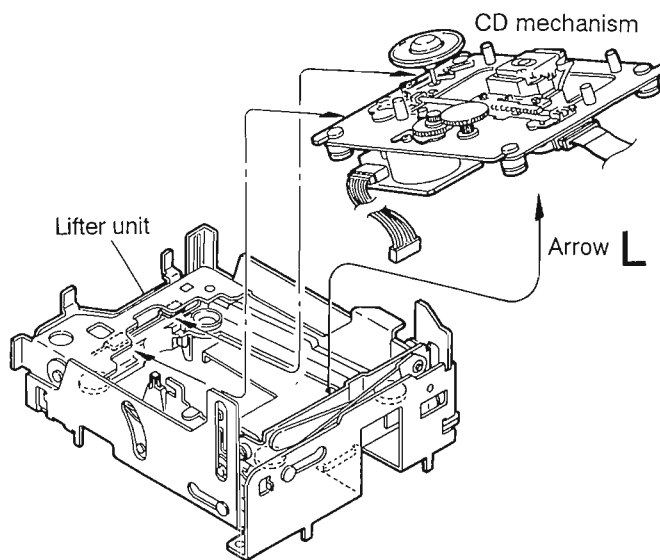

Fig.3-46
2. By raising the CD mechanism assembly in the arrow direction "L", remove the assembly from the lifter unit (Fig.3-46).